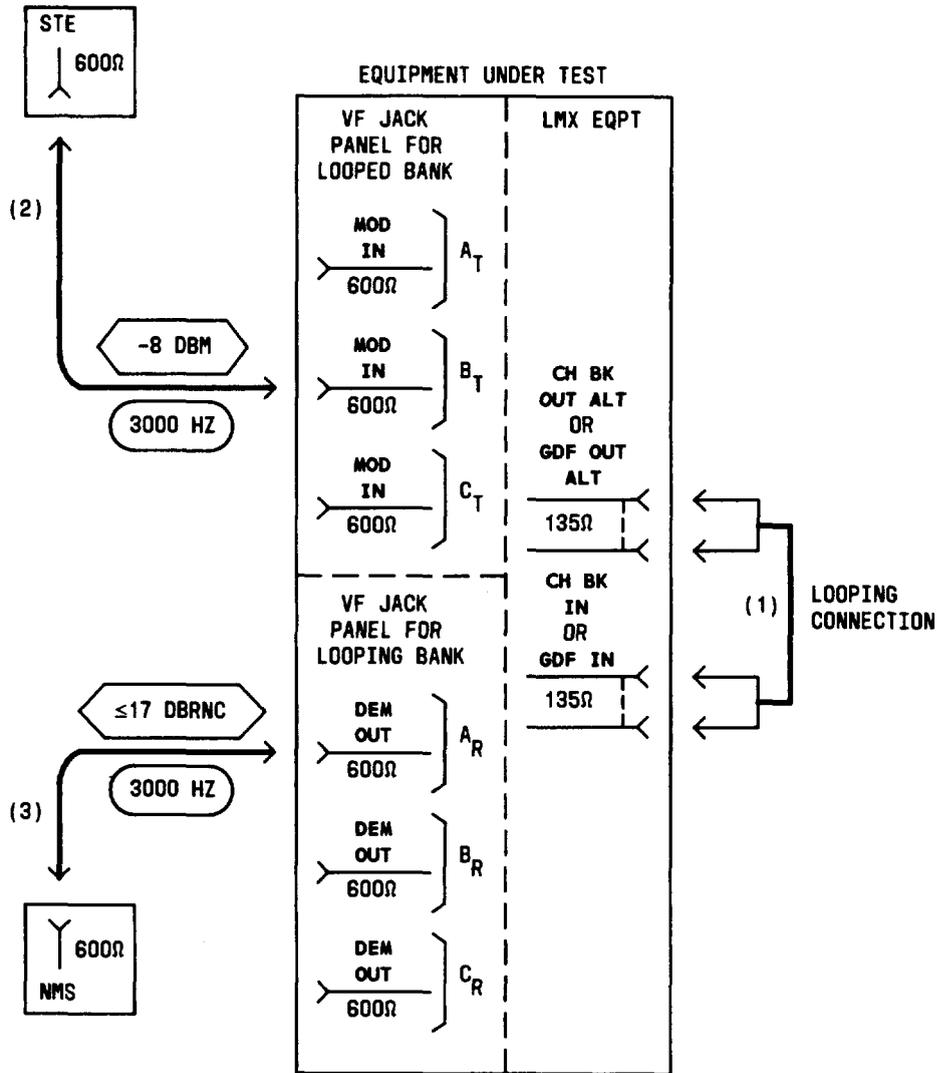

Fig. 23—Patching Diagram—Crosstalk Test—Unequal-Level Looping—Lower Adjacent Channel (3000 Hz)
11	Connect the STE to the MOD IN jack for Test A in looped -bank Channel B _T (Table J and patch (2), Fig. 23).
12	Connect the NMS to the DEM OUT jack for Test A in looping -bank Channel A _R (Table J and patch (3), Fig. 23).
16	Remove patches (2) and (3), Fig. 23.